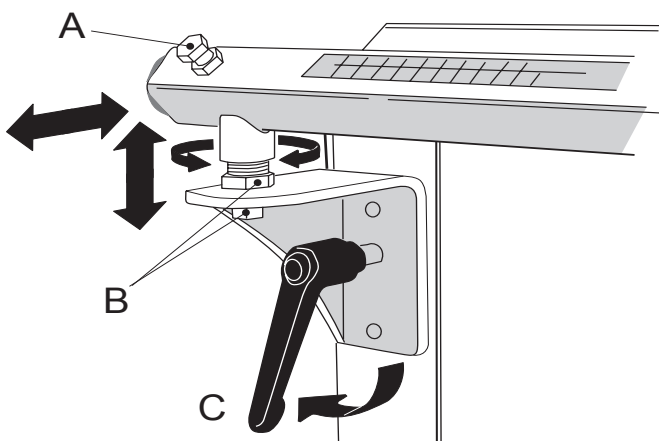

Fig. 3
- Attach guide bar to saw by turning lockinghandle. See Fig. 3.
- Adjust rollerbox height, bringing it flush with the turntable by loosening the locknuts on the guide bar fastening screws **B**, adjusting the screws and locknuts Fig. 3. Check rollerbox height by laying the rip fence across the turntable, rollerbox and rollertable. Tighten the locknuts and re-check the height.
- Adjust guide bar angle by means of screws **B**. Set turntable at 90° and use a carpenter's square to check the angle between the rip fence and the sawblade Fig. 4b. Tighten screws and re-check angle Fig. 3.